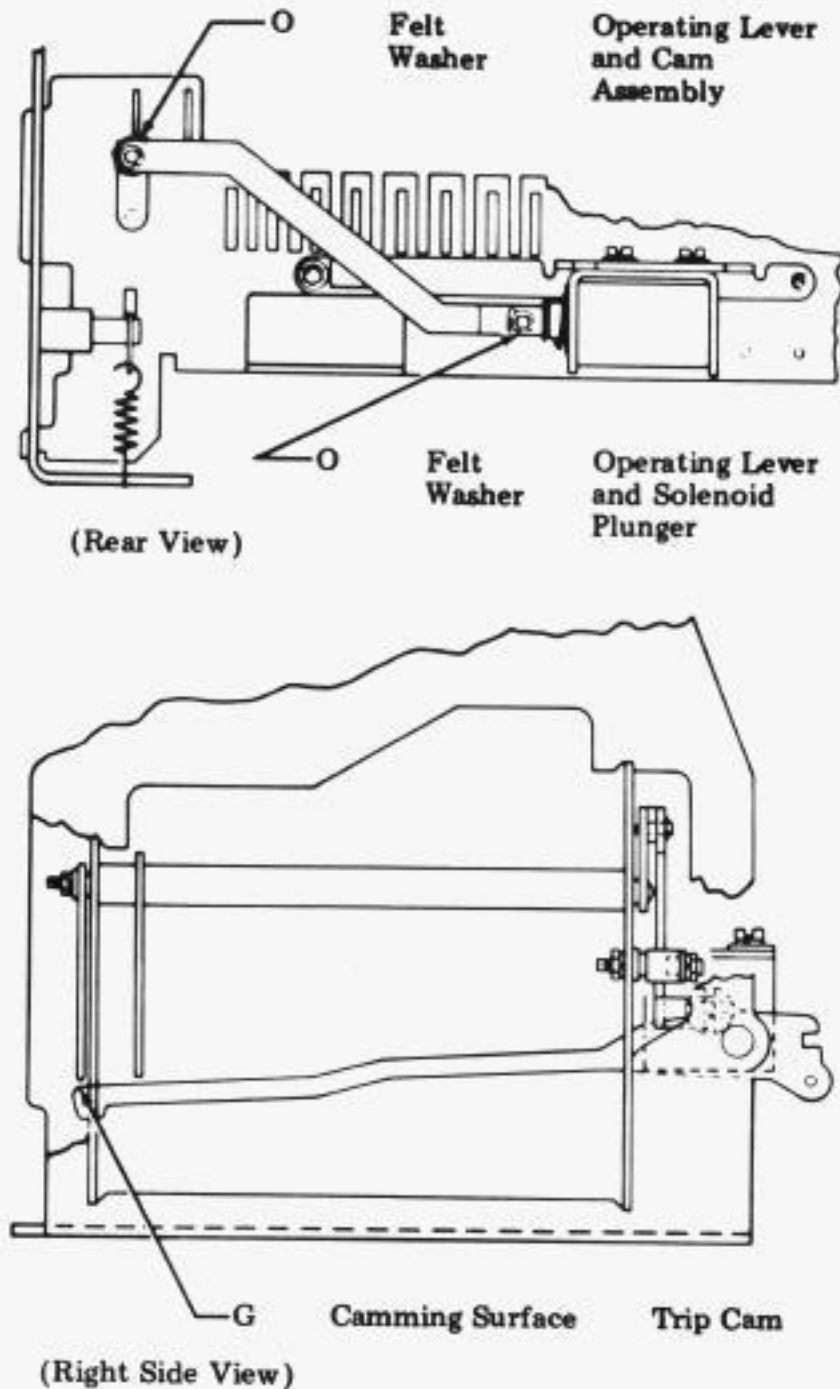

Figure 22 - Operating Lever and Trip Cam Lubrication
2.59 See Figure 22 for locking mechanism lubrication.